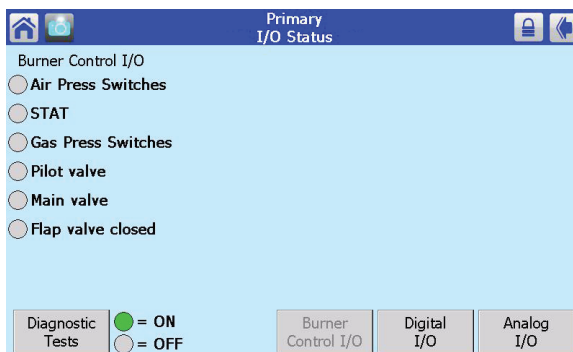

Fig. 129 - Burner Control I/O Screen
1. The buttons at the bottom of the screen select the types of inputs and outputs displayed. The Burner Control I/O button leads to Fig. 129.